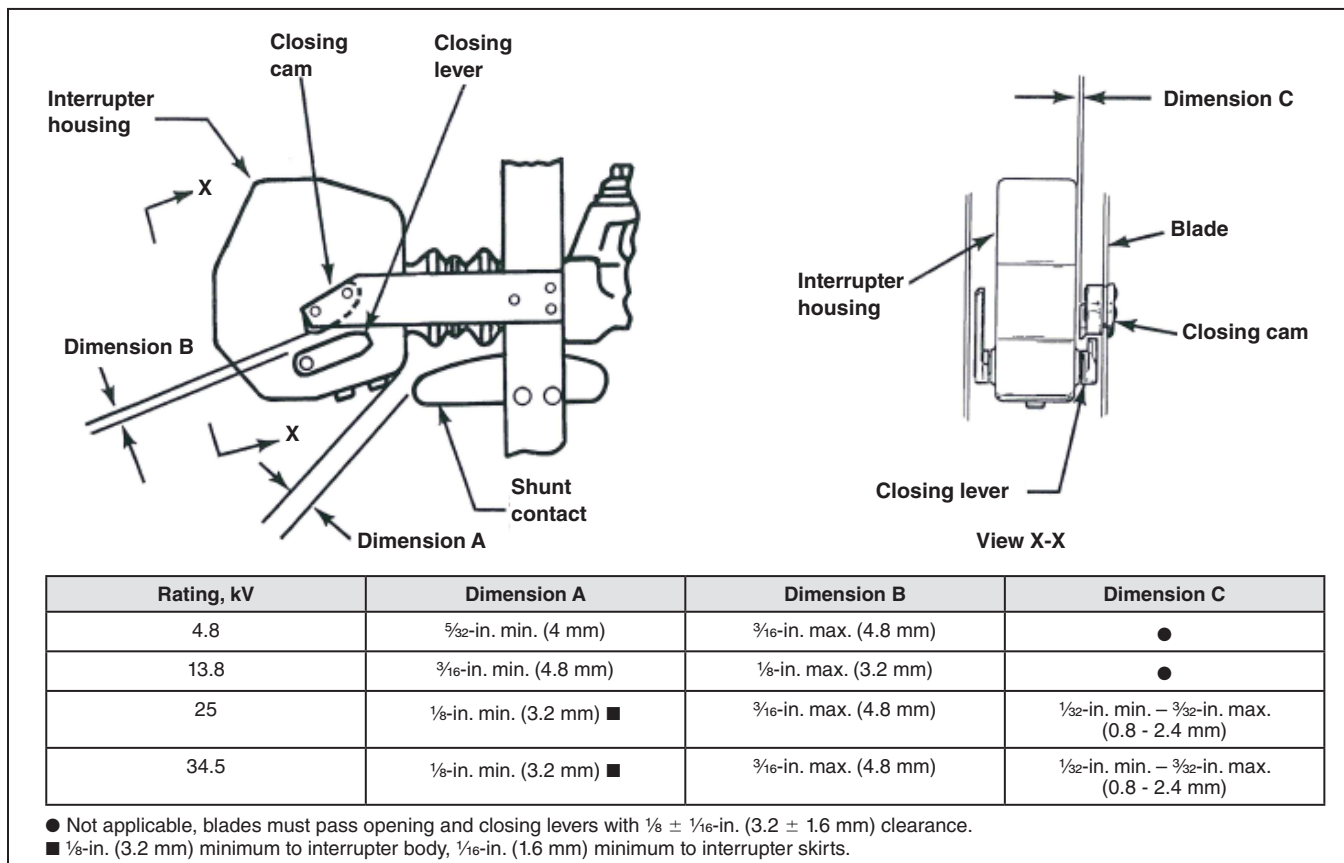

Figure 5. Operation checkpoints. (34.5-kV rating shown. Closing cam and closing lever are on opposite side to that shown for 4.8-kV and 13.8-kV ratings.)
STEP 8. Make a preliminary alignment check before operating the switch to verify the critical blade-to-interrupter clearances. Dimensions A, B, and C are as shown in Figure 5 on page 12.
If this blade-and-interrupter alignment, and the previously checked dimensions (A, B, and C in Figure 5), are determined to be correct, proceed to the next applicable step.
Note: Make sure during this procedure, to maintain the critical gap between the striking surfaces of the closing cam on the blade and the closing lever on the interrupter, as indicated in Figure 5 on page 12, Dimension B. Also, for 25-kV and 34.5-kV ratings, observe the blade as it moves past the interrupter in the closing direction. There must be a $\frac{1}{32}$ - to $\frac{3}{32}$ -inch (0.8- to 2.4-mm) clearance between the interrupter housing and the closing cam on the blade, as shown in Figure 5 on page 12, Dimension C. This critical dimension must exist so the raised portion of the cam (along the actuating surface) rides against the inner side of the closing lever of the interrupter during the closing stroke.
Re-tighten the main-contact bolts and recheck Dimensions B and C, Figure 5 on page 12.
- (f) With the blade in the fully **Closed** position, make sure the minimum clearance specified in Figure 5 on page 12, Dimension A, exists between the shunt contact on the blade and the interrupter housing. In addition, as the blade is opened, make sure the shunt contact makes contact with the interrupter housing (or contact rivets for 25-kV and 34.5-kV ratings) before the blade disengages from the main contact. Adjust by bending the shunt contacts as required.
STEP 12. Open and close the switch four or five times to check the operation. Verify the critical dimensions shown in Figure 5 on page 12 are retained and that the interrupters are opened and closed corresponding with the respective blade positions. Make minor adjustments as required.
Make a preliminary alignment check, before operating the switch, to verify the critical blade-to-interrupter clearances. Dimensions A, B, and C, are as shown in Figure 5 on page 12.
If this blade-and-interrupter alignment, and the previously checked dimensions (A, B, and C in Figure 5 on page 12), are determined to be correct, proceed to Step 8 on page 19.
During this procedure, make sure to maintain the critical gap between the striking surfaces of the closing cam on the blade and the closing lever on the interrupter, as indicated in Dimension B in Figure 5 on page 12. Also, for 25-kV and 34.5-kV ratings, observe the blade as it moves past the interrupter in the closing direction.
There must be a $\frac{1}{32}$ - to $\frac{3}{32}$ -inch (0.8- to 2.4-mm) clearance between the interrupter housing and the closing cam on the blade as shown in Dimension C in Figure 5 on page 12. This critical dimension must exist so the raised portion of the cam (along the actuating surface) rides against the inner side of the closing lever of the interrupter during the closing stroke.
Re-tighten the main-contact bolts and recheck Dimensions B and C from Figure 5 on page 12.
- (f) With the blade in the fully **Closed** position, make sure that the minimum clearance specified in Dimension A in Figure 5 on page 12 exists between the shunt contact on the blade and the interrupter housing. In addition, as the blade is opened, make sure the shunt contact makes contact with the interrupter housing (or contact rivets for 25-kV and 34.5-kV ratings) before the blade disengages from the main contact. Adjust by bending the shunt contact as required.